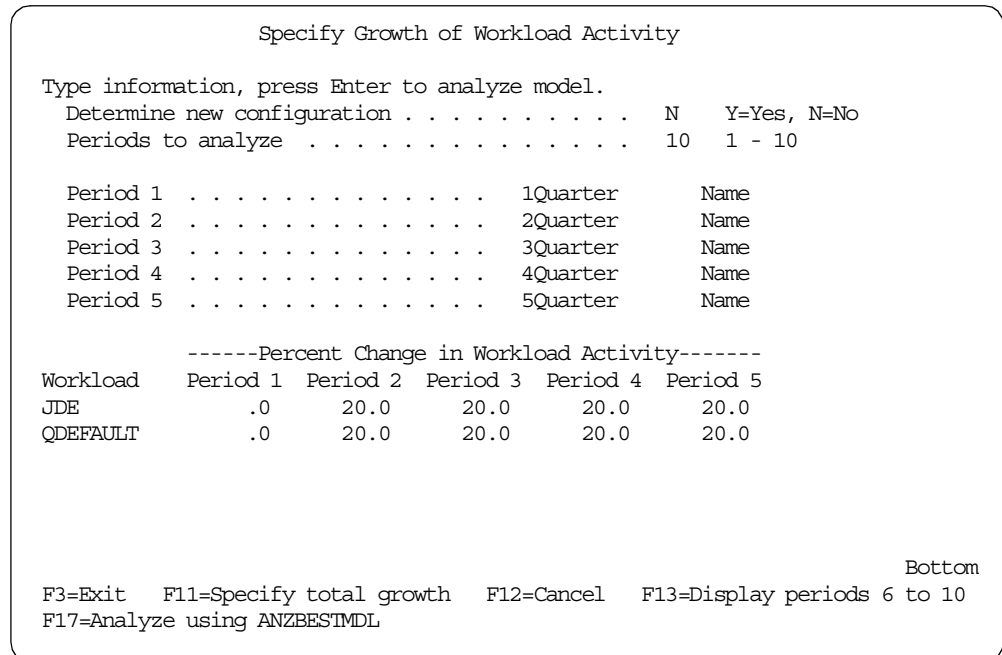

Figure 367. Specify Growth of Workload Activity: Detail
- Press F11 to display the workloads in the model that allows you to specify growth rates for each workload (Figure 367).